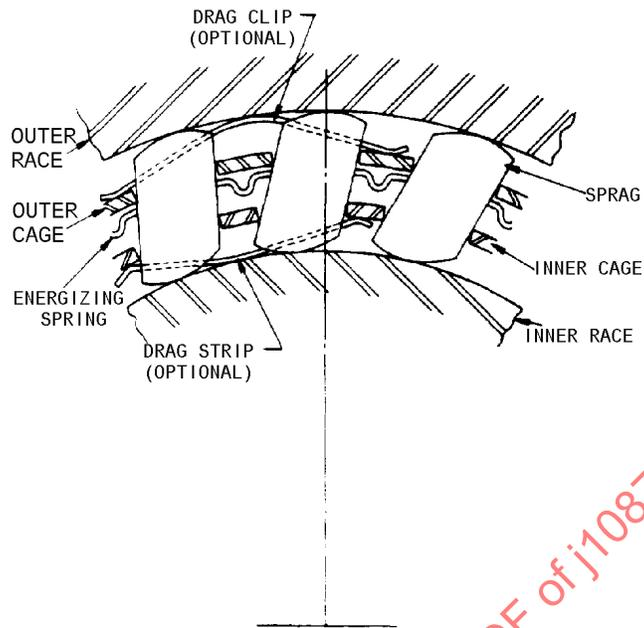

FIGURE 5—TYPICAL DOUBLE-CAGE SPRAG ONE-WAY CLUTCH DIAGRAM
- 5.2.1 CAGED SPRAG CLUTCH—A clutch that utilizes one or more cages to space or control the sprag elements. (See Figures 5 and 6.)
5.3.1 OUTER RACE—That element which provides the outer cylindrical surface through which the sprags transmit torque. (See Figures 5, 6, 7, and 8.)